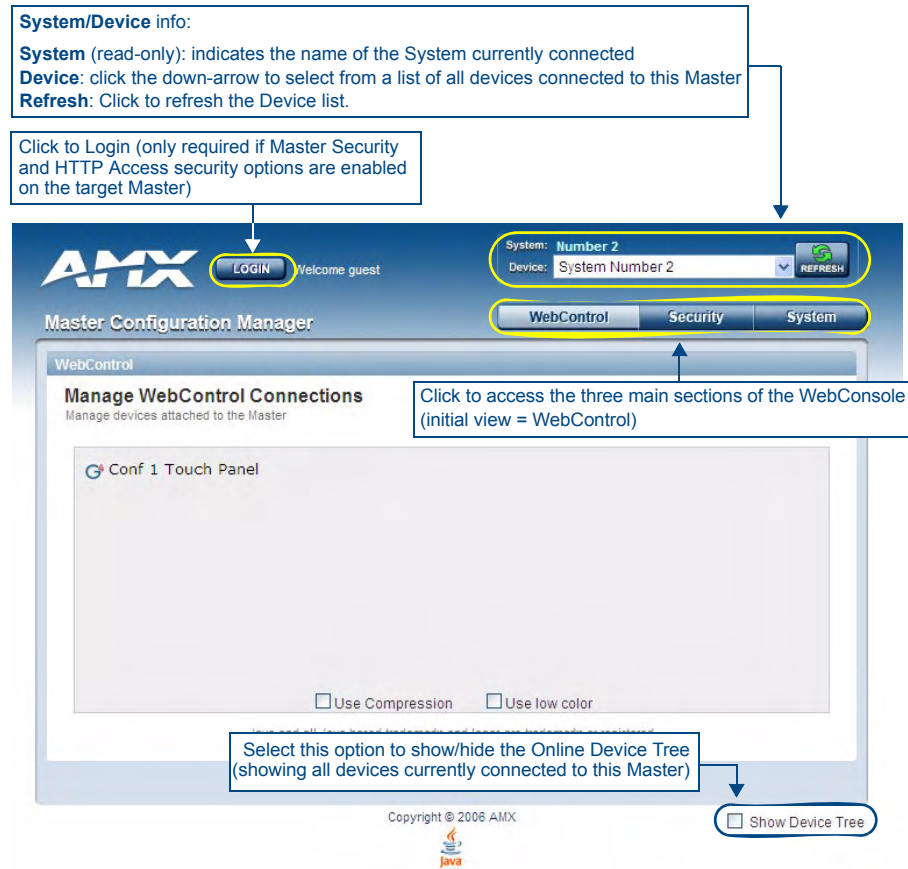

FIG. 1 Master Configuration Manager - WebControl Page (initial view)
1. In NetLinx Studio, access the *Device Addressing* dialog (FIG. 1 on page 6) by either one of these two methods:
NetLinX Masters have a built-in WebConsole that allows you to make various configuration settings via a web browser on any PC that has access to the Master. The webconsole consists of a series of web pages that are collectively called the "Master Configuration Manager" (FIG. 1).
2. Press Enter to access WebConsole for that Master. The initial view is the *WebControl* page (FIG. 1).